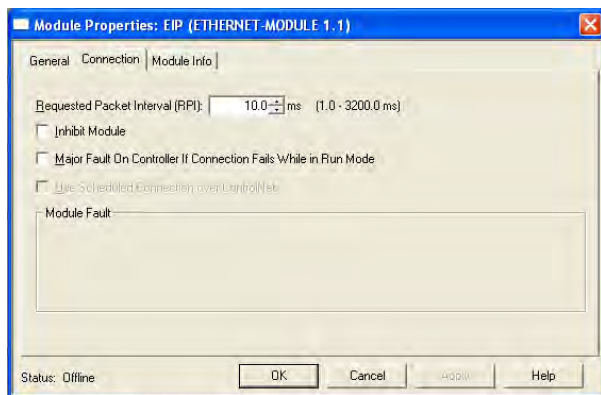

Figure 80: Interface Card Module Properties Connection Tab
- 5) You should now see the new module (named "ETHERNET-MODULE Fuji_Inverter") in the 1756-ENBT/A branch under the I/O Configuration in the controller organizer view. Right click on this new module, choose "Properties", and select the Connection tab. Refer to Figure 80.